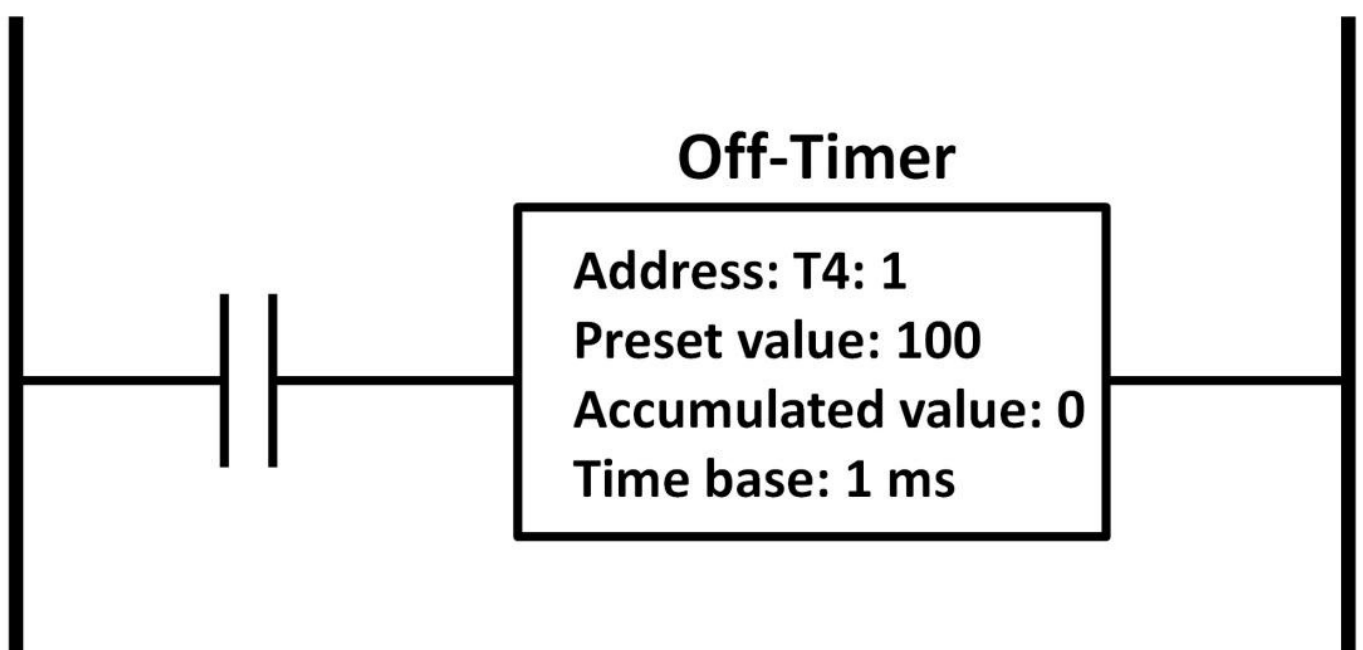

Figure 8.34: Off-timer symbol
The second timer type is the off-timer. According to figure 8.34, the theory of off-timer operation is that the DN bit is energized as soon as the off-timer input is high, (i.e., the EN bit also goes high). When the timer input is false, the off-timer starts to time (TT goes high). After a period of time set by the preset value, the timing bit (TT) and DN bit go low. Figure 8.34 shows the off-timer symbol. In other words, the off-timer takes time to turn the output off.